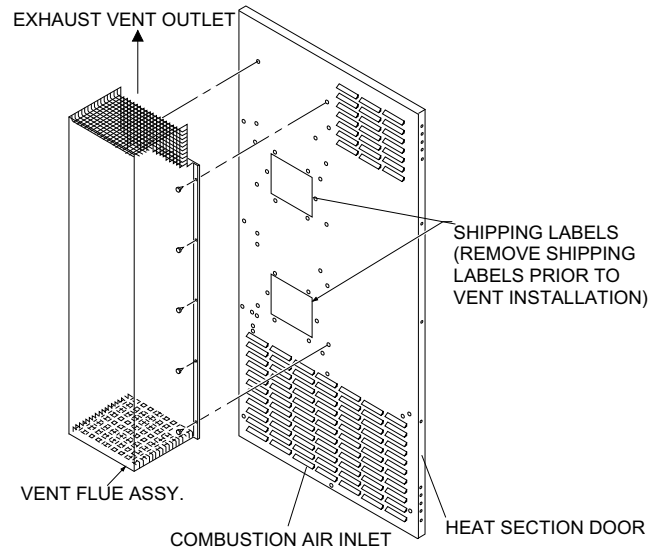

FIG. 1 - FLUE VENT ASSEMBLY
1. Close the main gas shutoff valve(s). Refer to FIG. 1.